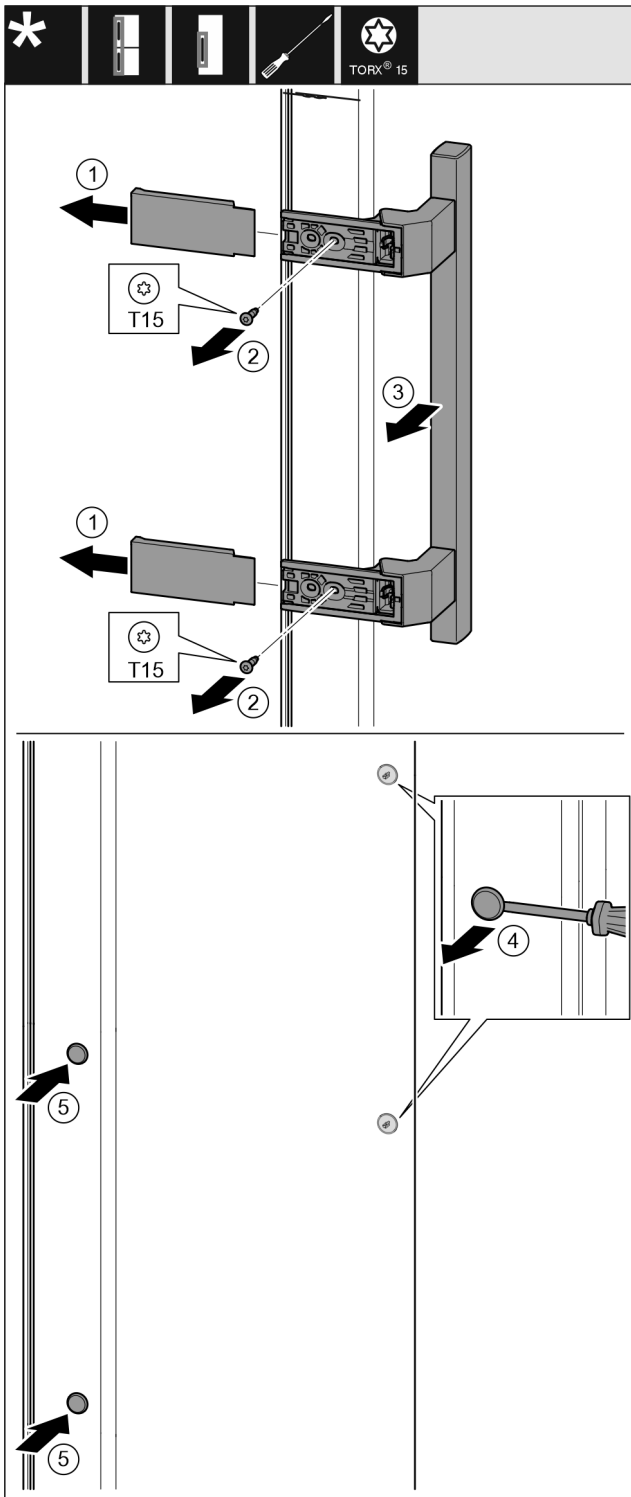

Fig. 10
- ▶ Pull off the cover. *Fig. 10 (1)*
- ▶ Unscrew the screws with a Torx 15 screwdriver. *Fig. 10 (2)*
- ▶ Take off the handle. *Fig. 10 (3)*
- ▶ Carefully lift the side plug with a slotted screwdriver and pull it out. *Fig. 10 (4)*
- ▶ Replace the plug on the other side. *Fig. 10 (5)*